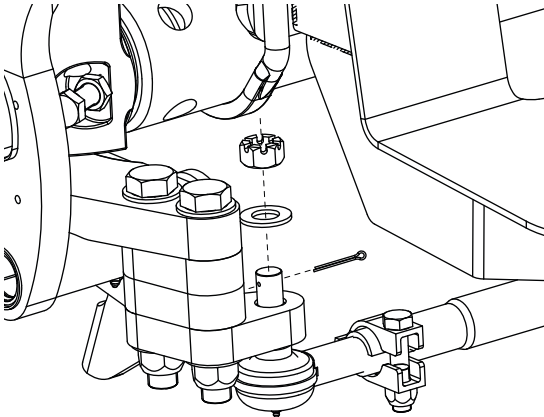

Figure 12: Remove tie rod fasteners
1. **Remove** the cotter pin and castle nut on the tie rod end to be replaced (Figure 12). Remove from both ends if both tie rod ends or the entire tie rod assembly is to be replaced.
3. **Install** washer and tie rod end castle nut onto tie rod end(s) (Figure 12).